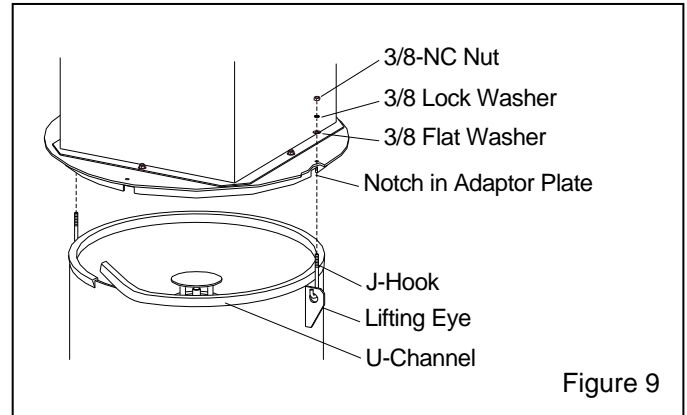

Figure 9
2.4.5 Place the rubber u-channel extrusion over the rim of the blast machine, as shown in Figure 9. To obtain a tight seal the ends of the extrusion must be square-cut and tightly compressed. Use rubber adhesive to hold the extrusion in place during assembly.
- To attach to a 30-inch or 36-inch adaptor, refer to Figure 9 and align the notches in the adaptor flange with the two blast machine's lifting eyes, and place J-hooks into the eyes. As the cleaner is lowered onto the blast machine, guide the hooks into the holes on the adaptor plate.